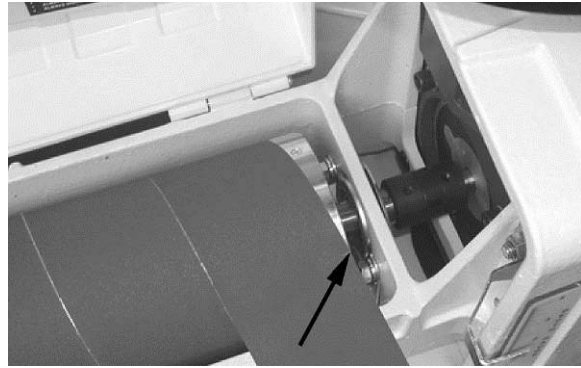

Figure 11
5. Mark the trailing end of the strip where it crosses the right (inboard) end of the drum (Figure 11).